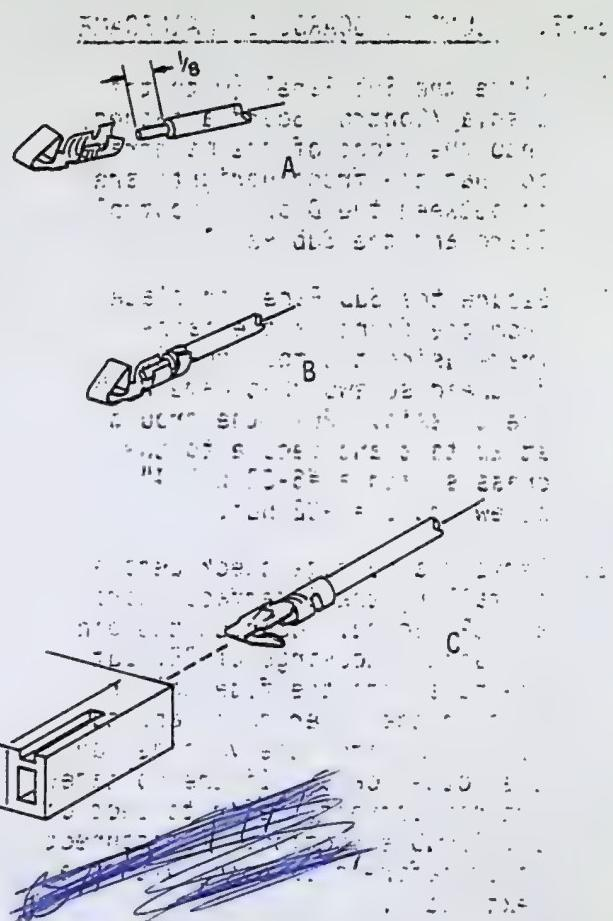

Figure 5-65. Female Connector Wiring for P3
**5-76. Instructions for Female Connectors, P3 (Figure 5-65)**
3. Install a connector pin (Bag 3 of D/C Interface Board) onto both ends of each wire by crimping the wire into place as shown in Figure 5-65 A and B. Then solder the exposed portion of the wire to the pin.
4. Insert the 8 pins into connector slots 3 through 10 on both connectors, as shown in Figure 5-65(C).